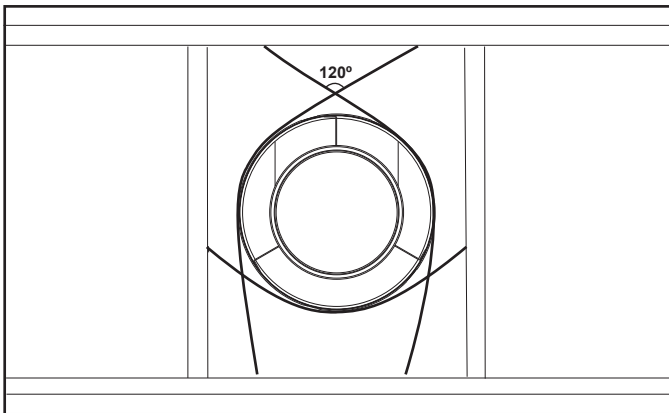

Figure 7.7 Securing Vertical Pipe Sections
- Vent supports or plumbers strap (spaced 120° apart) may be used to support vent sections. See Figures 7.7 and 7.8.